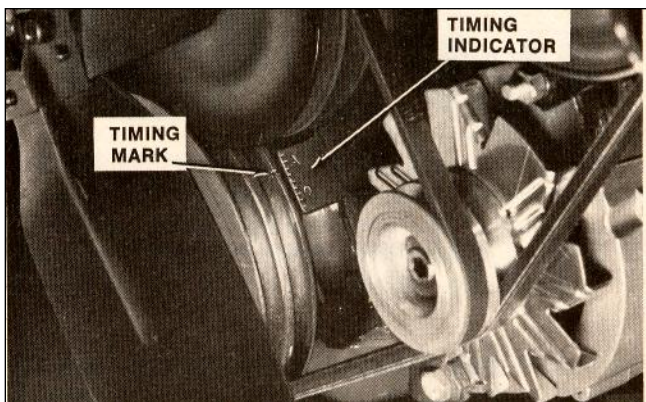

Fig. 3 Ignition timing marks on the crankshaft pulley
5. As you turn the distributor, the marking on the pulley will move ahead or back , When the ignition timing is correct, the markings will align with a timing pointer, or timing mark, as shown in (Fig. 3).